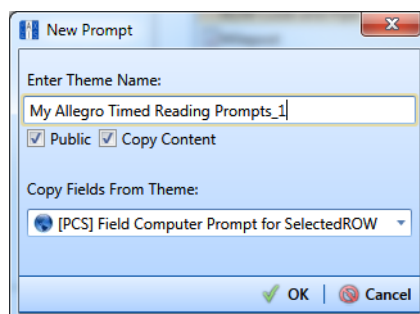

Figure 7-20. New Prompt
- 5 Click  **Add** to open the *New Prompt* dialog box (Figure 7-20).